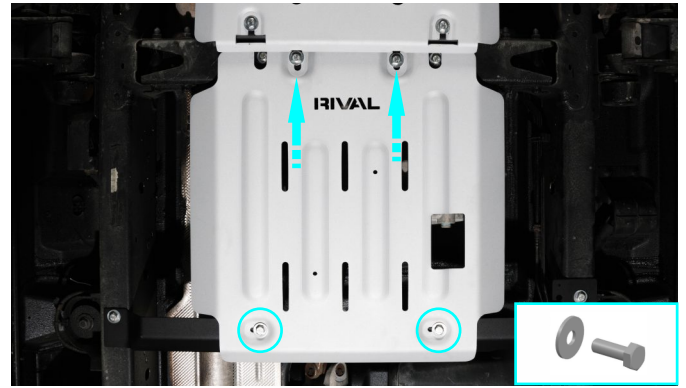

Fig. 7
7. Slide front part of transfer case skid plate (item 1) under previously installed bolts M10x30 from step 6 and secure it using bolts M10x30 with flat washers M10 (items C, D) as shown in fig.7.